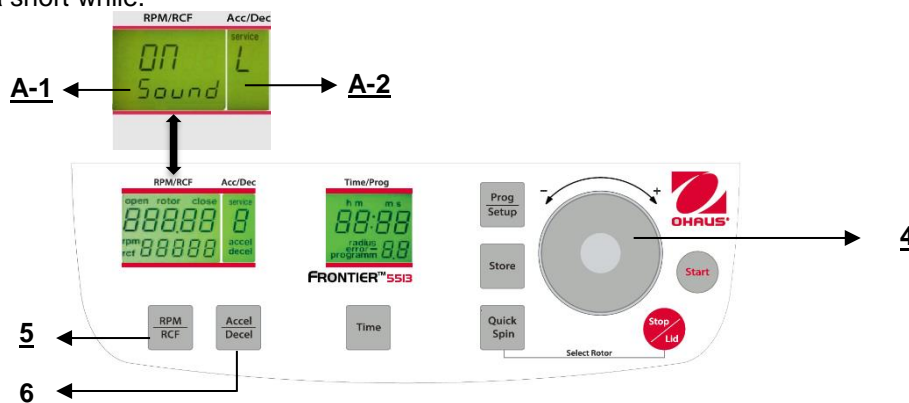

Figure. 30
Proceed as described under point 4.1.2 to enter this program mode and then press the key **"Accel/Decel"** (6). In the display **"Acc/Dec"** (A-2) the word **"Service"** flashes. Now select the letter **"L"** with the adjusting dial (4). As a result, the words **"On Sound"** appears in the display **"RPM/RCF"** (A-1). If you press the key **"RPM/RCF"** (A-1) now, the word **"On"** flashes and you can switch off the sound with the adjusting dial (4) (See figure 30).